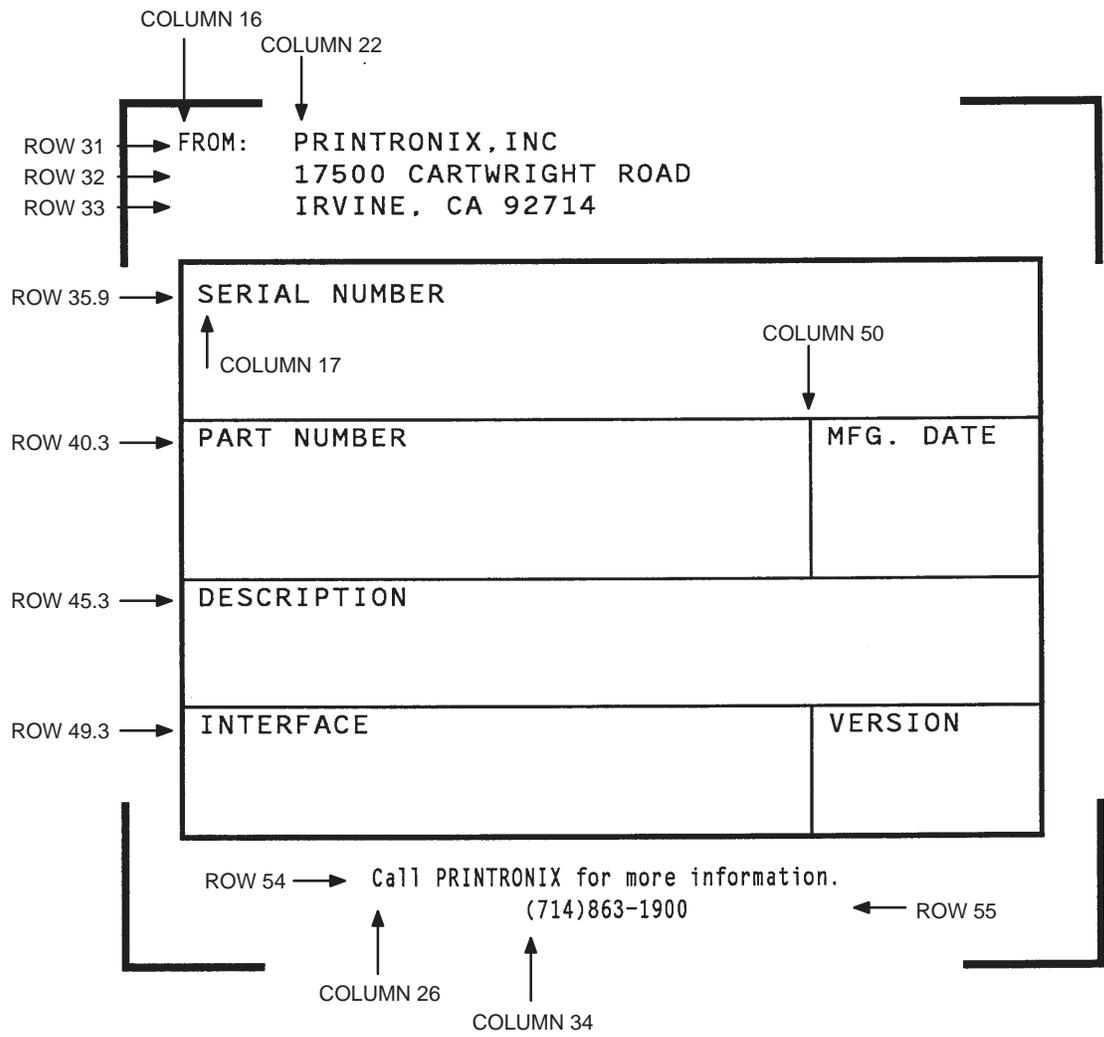

Figure 6–8. Practice Form Example
The form should look like the one shown in Figure 6–6. When it was printed, the form program was stored in the IGP/PGL memory. If errors are detected in the program, error messages are printed and only the error-free portions of the program are stored in the IGP/PGL memory. (Refer to “Solving Program Errors” on page 6–49.)
The last two commands have added to the form definition. PRACTICE now looks like Figure 6–7.
Notice that the END, EXECUTE;PRACTICE and NORMAL statements are still in the file. These are always necessary to end the storage of the form in the IGP/PGL and cause it to print. Remember, a blank line must *always* separate the EXECUTE and NORMAL commands. Print the file PRACTC.FRM. The PRACTICE form should look like Figure 6–8, except for any alphanumeric data substitutions you made. Again, if error messages occur, refer to “Solving Program Errors” on page 6–49 .
14. Now the PRACTC.FRM file contains all the following information (the complete form program). Print the form by printing the file. The completed form is shown in Figure 6–9.